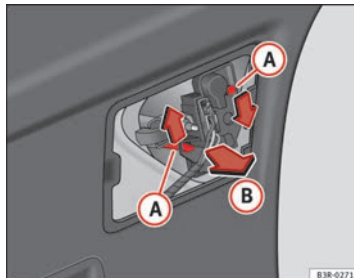

Fig. 234 Remove the bulb holder
- Press on the tabs (A) ⇒ Fig. 234 in the direction of the arrows and remove the bulb holder by pulling in the direction of the arrow (B).